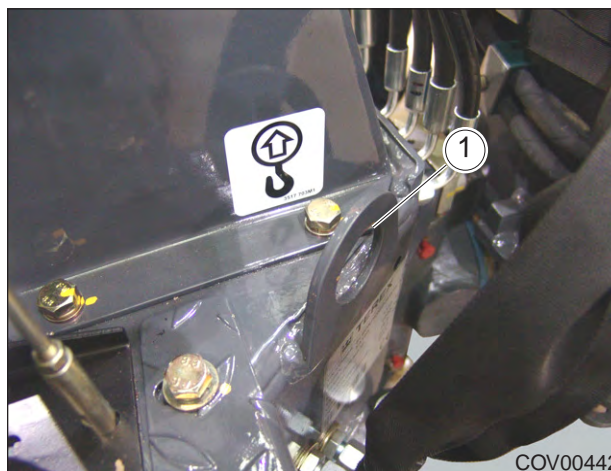

Figure 5.1 - Lifting Point
Refer to Figure 5.1. A lifting point (1) is provided each side of the steering column for lifting the machine. Using these points and a 2 legged chain will give a safe stable lift. Other methods of lifting are not recommended.